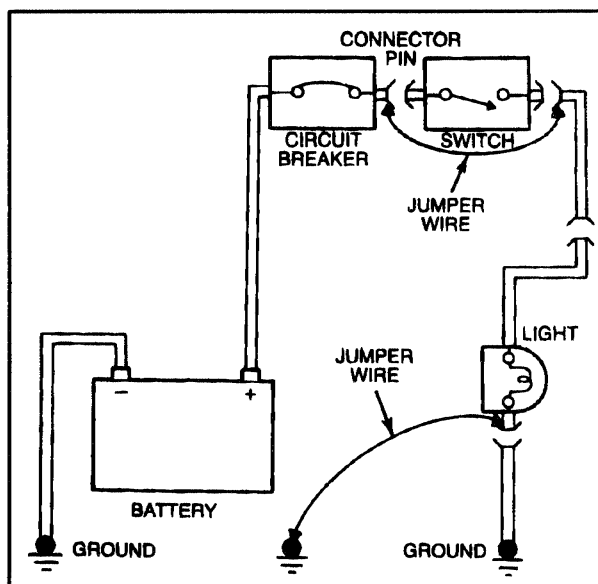

Figure 5.3-12 - Troubleshooting Using Jumper Wires
Jumper wires (Figure 5.3-12) allow “jumping” across a suspected open or break in a circuit.
- If the circuit (Figure 5.3-12) works properly with the jumper wire in place, but does not
In (Figure 5.3-12), if bypassing the switch with a jumper wire causes the light to illuminate, but closing the switch does not, it indicates the switch has failed. If, with the switch closed, the light does not illuminate, and “jumping” the switch doesn’t cause the light to operate, but “jumping” the light to ground causes the light to operate, then there is an open in the ground circuit.